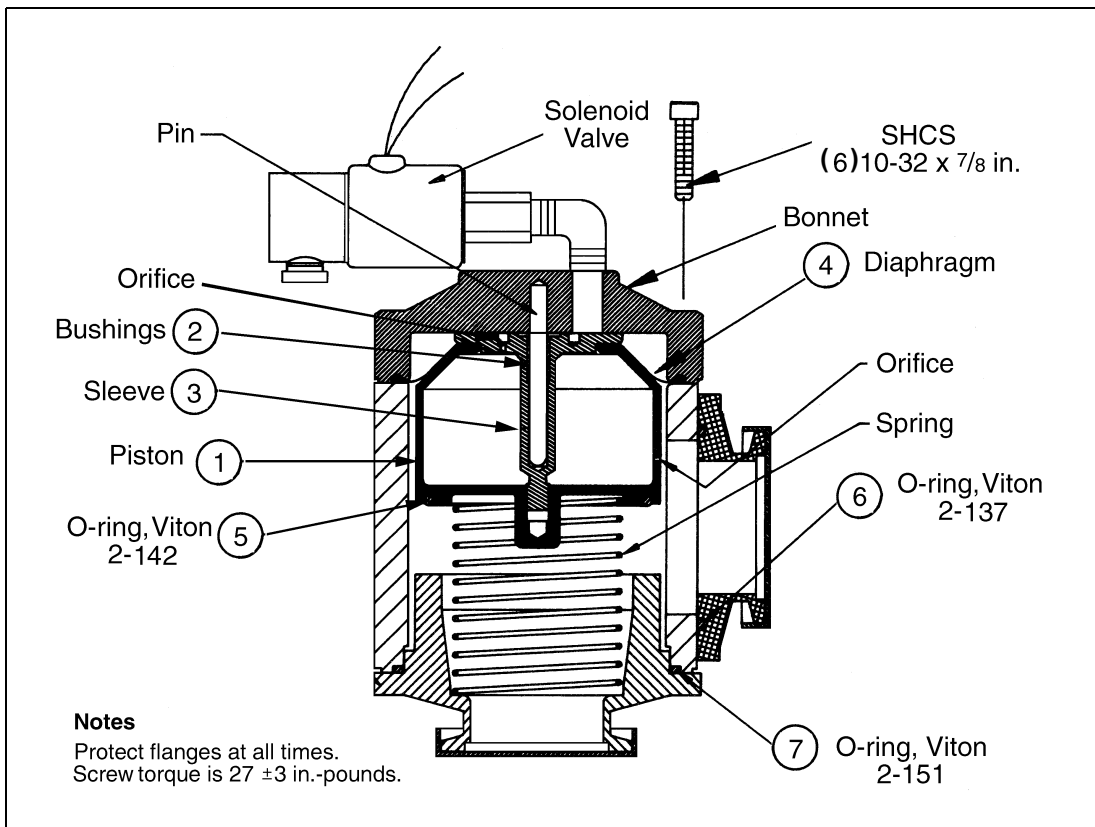

Figure 3-1 Assembly View and Replacement Parts
These instructions refer to Figure 3-1. Circled items are replacement parts. Items 1 through 4 are part of the Piston Assembly (see Section 3.6 "Replacement Parts" on page 3-9).
1. Remove the diaphragm ④ from the piston by unscrewing the sleeve ③ from the piston using a spanner wrench. Inspect the orifices and clean if necessary. Be careful not to enlarge the orifices, because performance may suffer. Inspect the diaphragm ④ for holes, tears, or accumulated contamination. Discard it if damaged.
2. Inspect the dry bushings ② pressed into the sleeve ③. These bushings are normally good for several hundred thousand cycles, but they can be replaced when they have worn out. A worn bushing can be identified by excessive exposure of the sintered bronze matrix, which is not normally visible. A modest amount of lead /Teflon[®] flakes in and around the bushing and pin is normal and does not constitute abnormal wear of the bushing. If there is any doubt about the condition of the bushings, they should be replaced. Remove by inserting a number 10 machine screw and pulling. There are two ¼ in. long bushings used in tandem. After removal of the old bushings inspect the bore in the sleeve ③ for debris and burrs. Clean as necessary. Press two new bushings into the bore, one at a time, flush to the top of the sleeve.
3. To reassemble, place the diaphragm ④ on the piston with the inner bead down and the outer bead up (Figure 3-1 on page 3-1). A small amount of vacuum compatible grease should be smeared on the sleeve side of the diaphragm/sleeve contact area to prevent puckering of the diaphragm during tightening of the sleeve. Also, if the piston and sleeve have been degreased prior to assembly, a small amount of vacuum compatible lubrication should be applied to the male threads of the sleeve to prevent seizing of the sleeve to the piston. DuPont Krytox[®] GPL 206 is acceptable. Tighten the sleeve hand tight. Do not overtighten, this is not a vacuum grade seal.